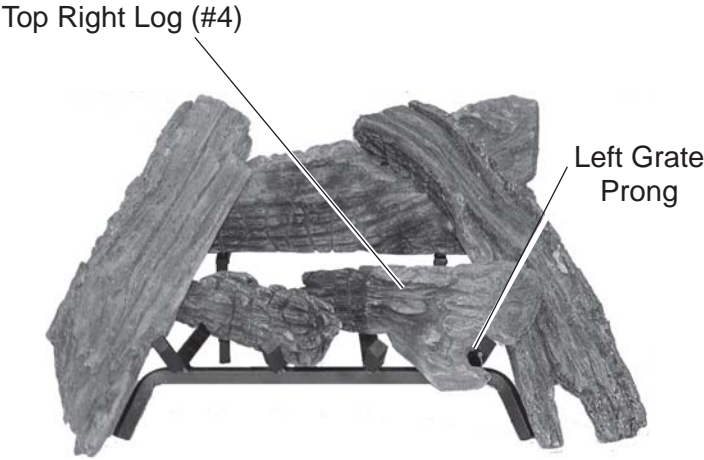

Figure 72 - Resting Top Right Log (#4) on Bottom Left Log
- 5. Rest right end of Top Right Log #4 on bottom right log. See Figure 72.